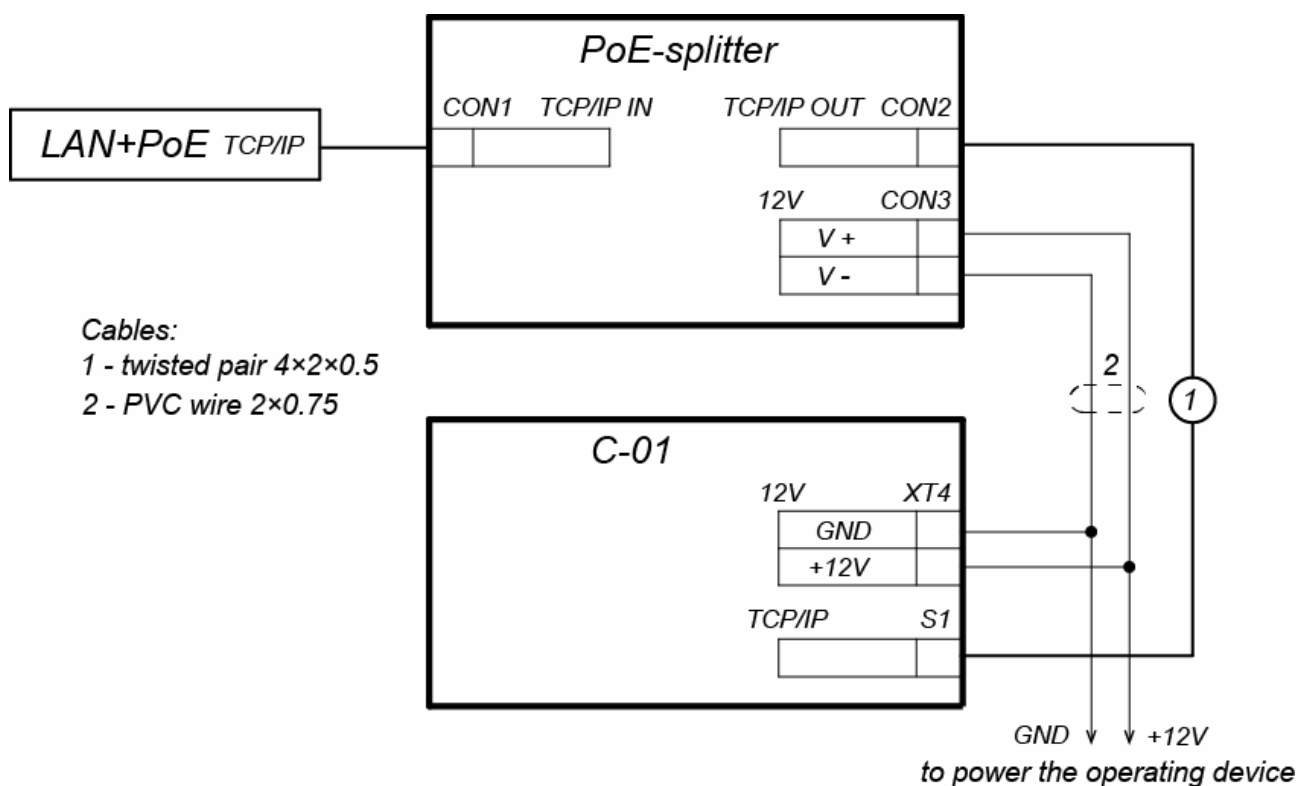

Figure 18. Connection scheme of the controller through *PoE-splitte*
3. Connect the power supply to **Con3** connector. If necessary OD can be connected to **Con3** connector too. Connection scheme is shown on Figure 18 (plug for connection to connector is included in delivery kit of the splitter).